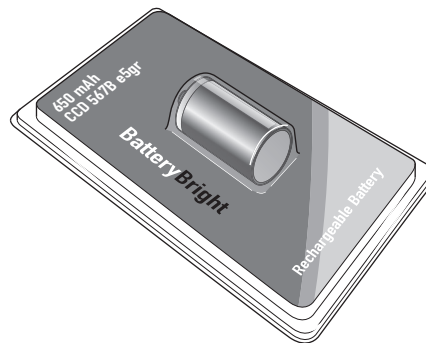

Fig. 6.1
- 6 Fig. 6.1 shows a battery that has been 'blister packaged'.